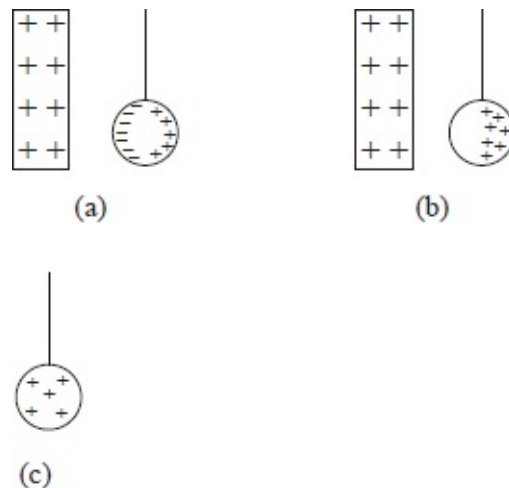

Fig. 9.6: Charging by contact
- Bring a charged glass rod close to, but not touching the ball, see figure 9.6 (a).
- Bring the charged glass rod in contact with the ball, rolling it over the surface, as shown in figure 9.6 (b).